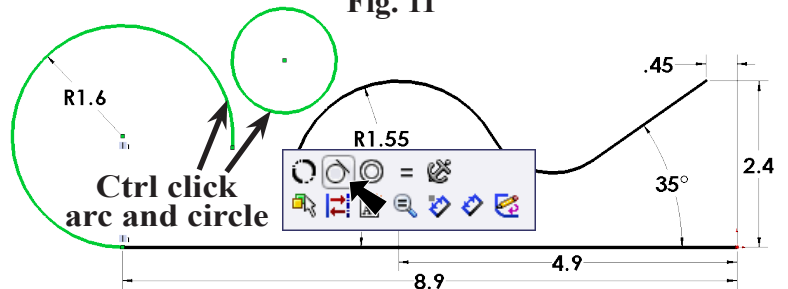

Fig. 12
Step 4. **Ctrl click an arc and circle** to select both, Fig. 12. Release **Ctrl** key and click **Make**
**Tangent**  on the Content menu, Fig. 12.